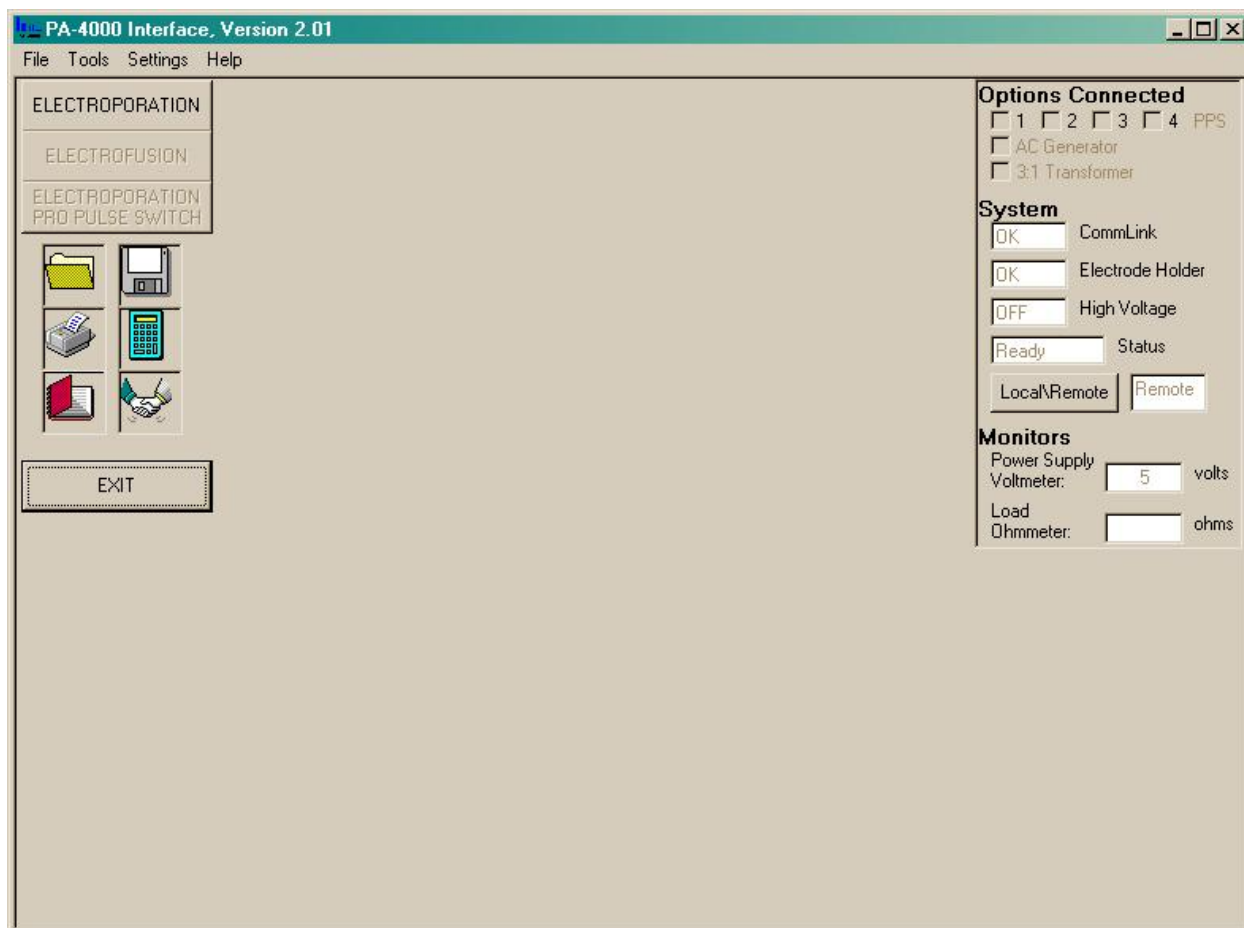
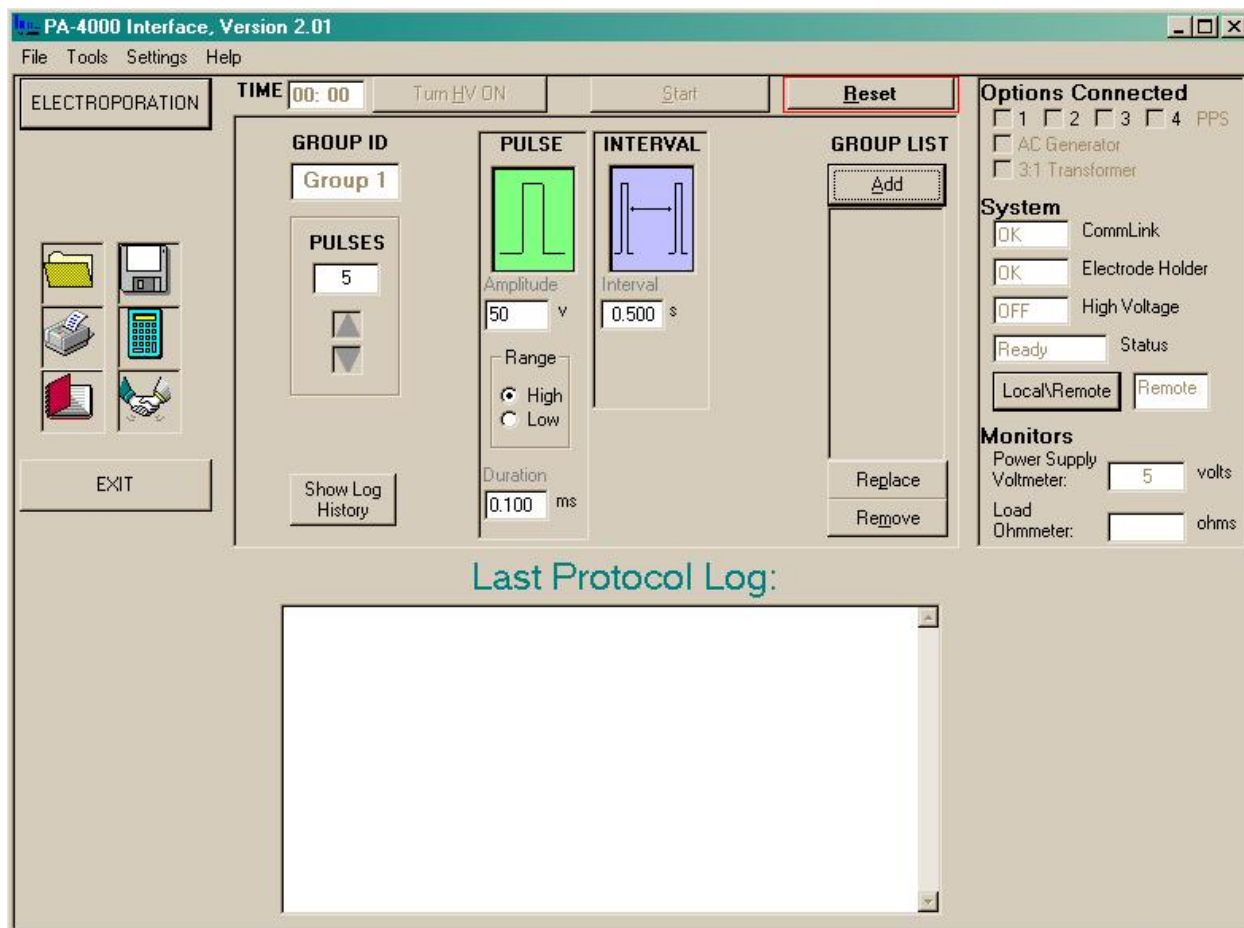

Figure 4-3: *PulseAgile*® Opening Screen showing current system status
Figure 5-1: *PulseAgile*® Interface Electroporation Mode Screen
The screen should appear like that as shown in Figure 4-3. The *CommLink* window should show **OK**. This display indicates that the computer is communicating with the internal microprocessor of the PA-4000. Additionally, the *Electrode Holder* window should display **OK**, the *High Voltage* window should display **OFF**, and the *Status* window should say **Ready**. The *Power Supply Voltage* window will display **5** volts.
- The screen is divided into four areas within the main window. The Title Bar and pulldown menus (top), the *Tool* buttons (left), the *Control Panel* for each operating mode (center), and the *Status* area (right), see Figure 5-1.
Start the *PulseAgile*® Interface software. A screen will appear that shows standard Windows® -type pull-down menus at the top, a *Tools* area on the left, and a *Status* area on the right (shown in Figure 4-3). Now click the button labeled *Electroporation*, which will add the *Control Panel* area and the *Last Protocol Log* window to the center of the display. The screen should now appear as shown in Figure 5-1.